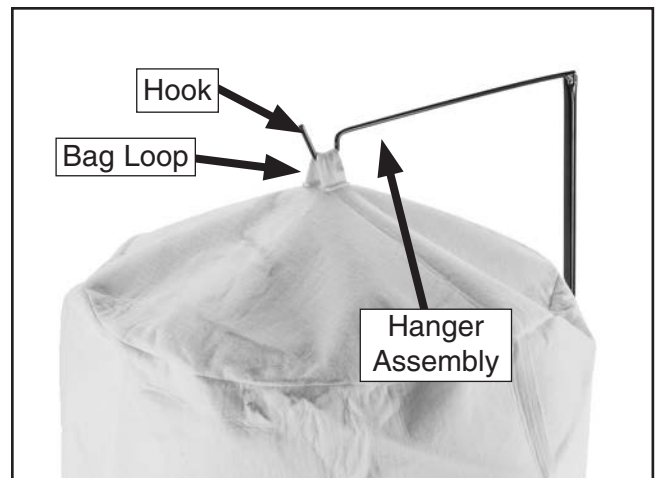

Figure 15. Upper filter bag mounted on hanger assembly.
12. Place the loop at the top of each upper collection bag over each hook on the hanger assemblies (see **Figure 15**).